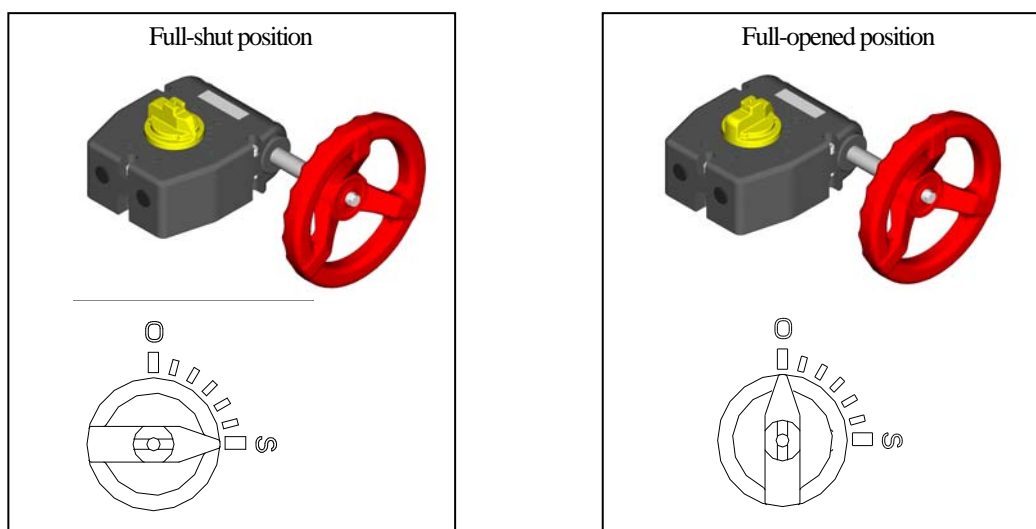

Fig. 3
- 3) In case of gear type (50-250mm {2"-10"}), the indicator shows the position of the disc on the top of gearbox (Fig.3).